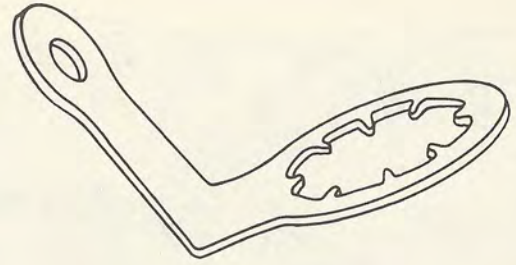

Fig. 1-12
Step 1. Take each of the 12 soldering lugs and, with your long-nose pliers and fingers, bend it about 90 degrees, as shown in Fig. 1-12.